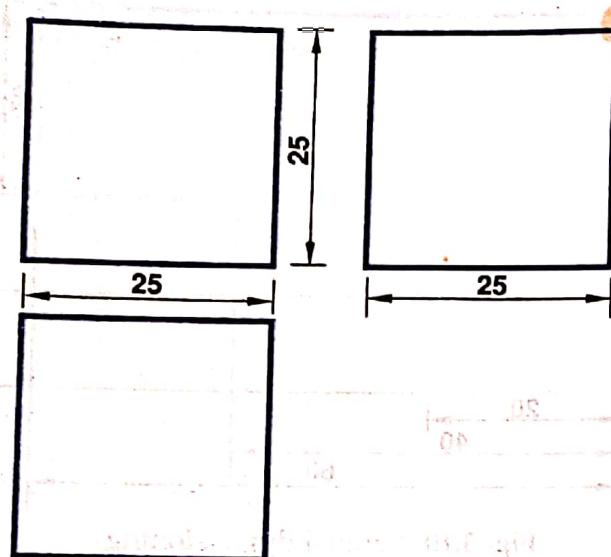

Fig. 3.13 Repetition of dimensioning in various views should be avoided
- (ii) Dimensions indicated in one view need not be repeated in another view, as shown in Fig. 3.13.